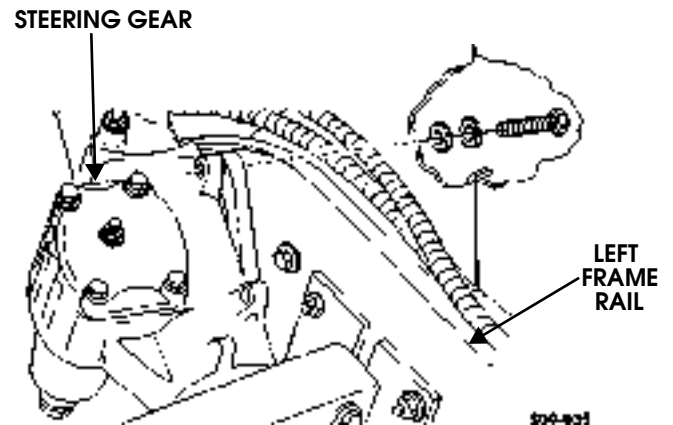

Figure 9-146: Steering Gear and Left Frame Rail Location
8. Remove three bolts, lockwashers, and washers and pull steering gear away from left frame rail (Figure 9-146).
10. Secure steering gear to left frame rail with three washers, lockwashers, and bolts. Tighten bolts to 60 lb-ft (81 N•m) (Figure 9-146).